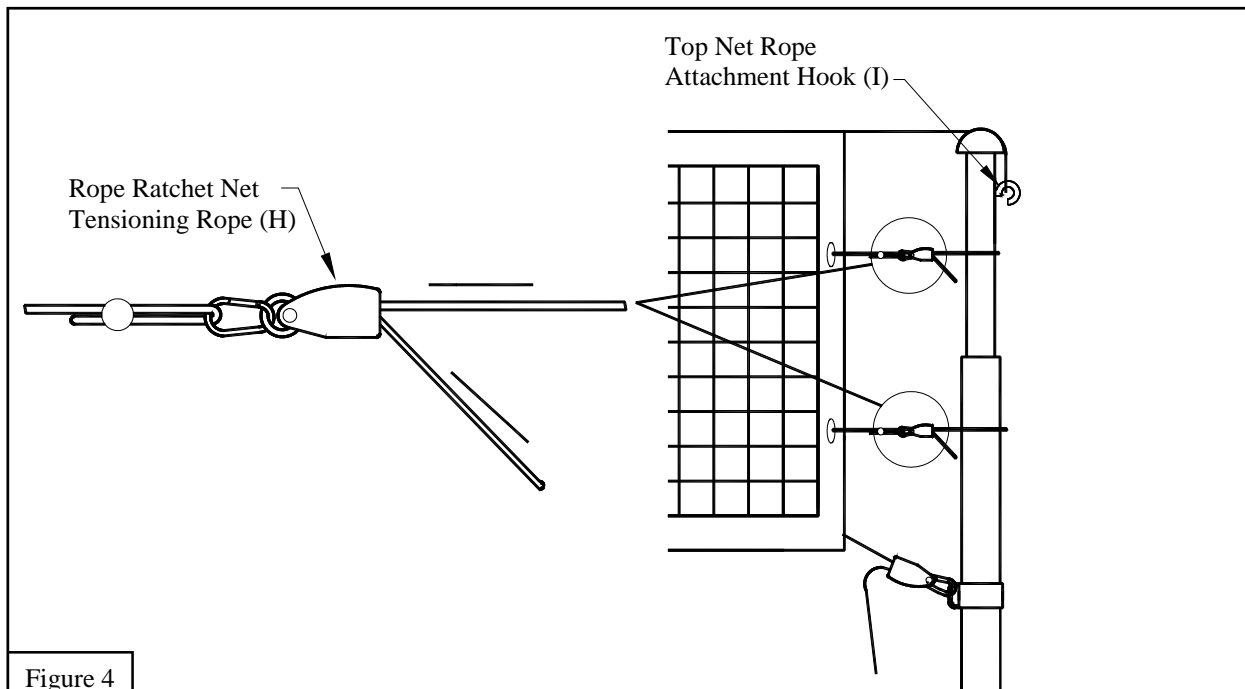

Figure 4
2. Run net top rope over the top rope guide on the non-winch *Standard* (A) and place loop over *Top Rope Net Attachment Hook* (I). See Figure 4.
4. Crank winch to remove most of the slack in the net, do not tighten for play, just enough to position net. Install one *Collar Strap* (J) to each pole 1"-2" below bottom of net. Hook the bottom net rope to the *Collar Strap* (J) on the non-winch pole with a *Carabiner Clip* (L). Hook the other end of the bottom net rope with rope ratchet tensioning device to the *Collar Strap* (J) on the winch pole. See Figure 4.
5. Crank the net top rope tight with the winch ***SEE NOTE BELOW***. Pull bottom rope tight through the bottom rope ratchet tensioning device. See Figure 4.